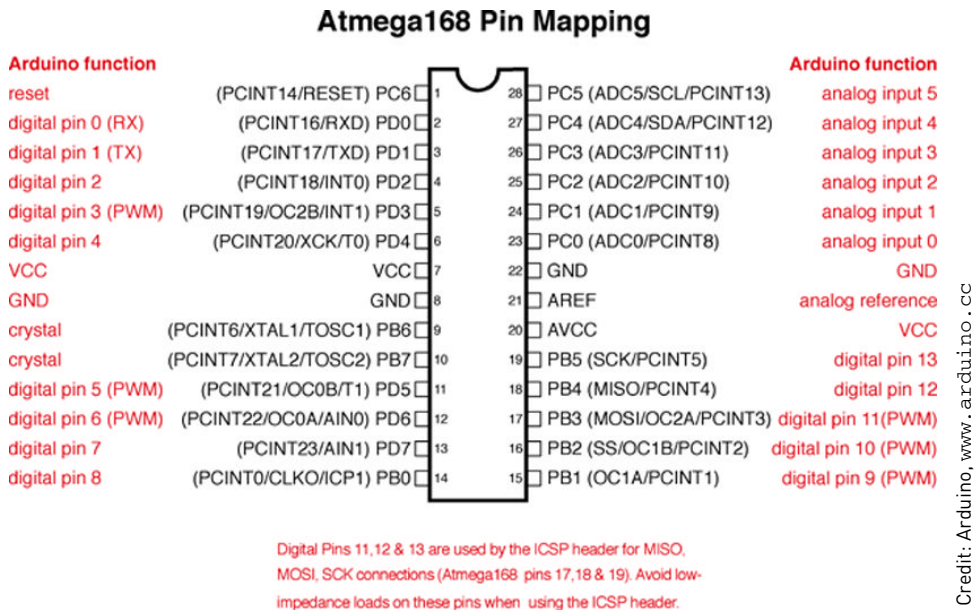

Figure A-4: Arduino ATmega Pin Mapping
The labels in parentheses represent alternative functions for each pin. For example, pins PD0 and PD1 are also the Universal Synchronous/Asynchronous Receiver/Transmitter (USART) Receive (RX) and Transmit (TX) pins, respectively. Pins PB6 and PB7 are the crystal connection pins (XTAL). In the case of the Arduino Uno, an external 16 MHz ceramic resonator is connected to these pins, so you cannot use these for general-purpose I/O. If you have trouble deciphering the pin labels, you can usually learn more about what they mean by searching the rest of the datasheet for those terms. The Arduino website has a diagram illustrating how the ATmega pins are connected to numbered pins on the Arduino board. You can find it at <http://arduino.cc/en/Hacking/PinMapping168>, and it is shown in Figure A-4.
Perhaps one of the best ways to learn about electrical design is to analyze the schematics of existing products, such as the Arduino. Figure A-4 shows the schematic for the Arduino Uno.